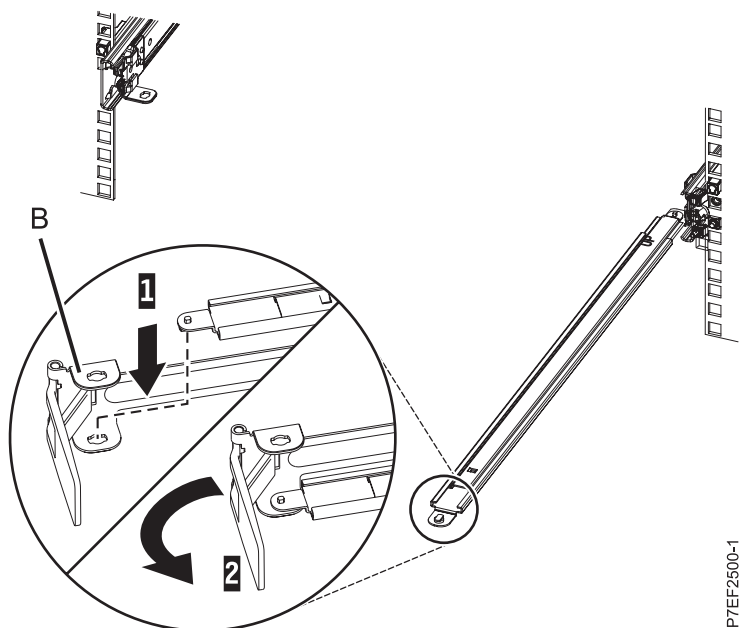

Figure 11. Securing the cable-management stop bracket to the support arm
3. Locate the hole at the bottom inside corner of the L-shaped cable-management stop bracket (B). Position the unattached end of the support arm so that the locking tab on the underside of its tip aligns with the bracket hole. Insert the tab into the hole (1) and turn the bracket (2) to secure it to the support arm. For details, see Figure 11.